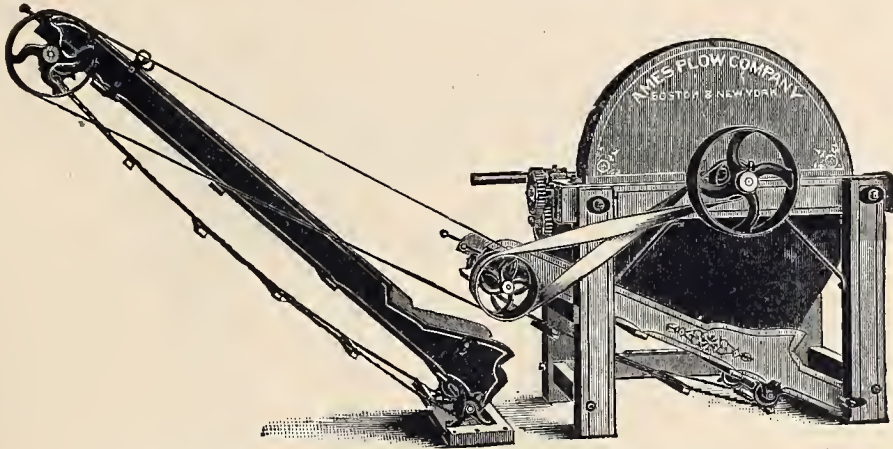

Fig. B 434.—Dr. Bailey Cutter with Elevator.
*Elevators, or Carriers, for the Dr. Bailey Cutter*, shown attached to Cutter at *Fig. B 434*, can be used in connection with any of the sizes from 12 to 20 inch. These Elevators carry away the cut-fodder and deliver it in the Silo or other receptacle without handling after it is fed to the cutter. The Base Elevator delivers it to the Upright Elevator which runs at an angle of 45 degrees, so that the length of Upright Elevator required is 50 per cent. added to height in the perpendicular of point to be reached. The Upright Elevator may be run straight out from the side of machine, as illustrated, or it may be turned at right angles to the front, or at right angles to the rear as desired.